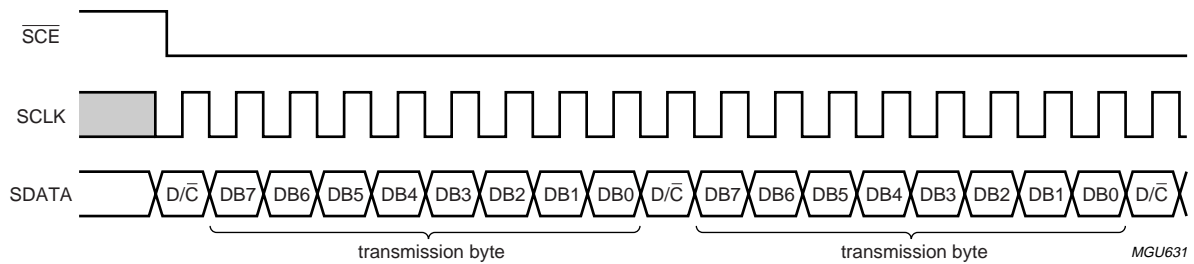

Fig.22 Serial interface (3-line), write mode - transmission of several bytes.
- If  $\overline{SCE}$  stays LOW after the last bit of a command/data byte, the serial interface is ready for the  $D/\overline{C}$ -bit of the next byte at the next rising edge of SCLK (see Fig.22).